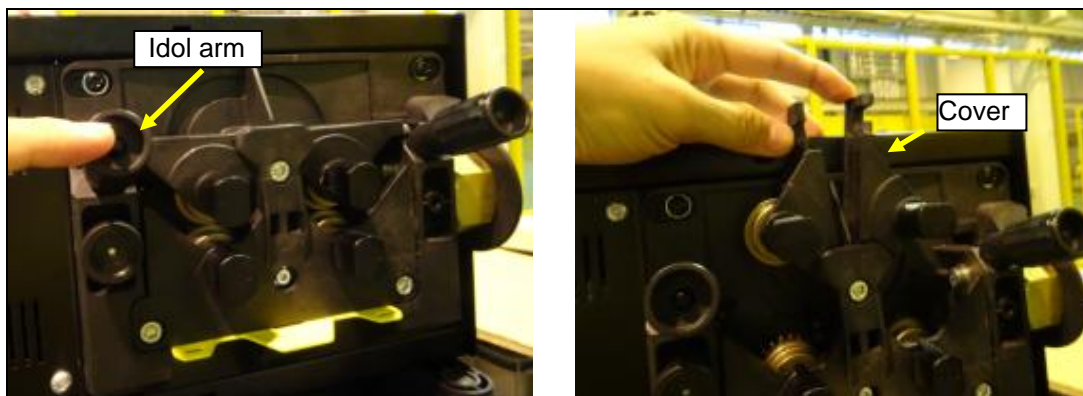

Fig. 7.4 (a) Replacing the feeder rolls
- 3 Lay down the idol arm. (See Fig. 7.4 (a))